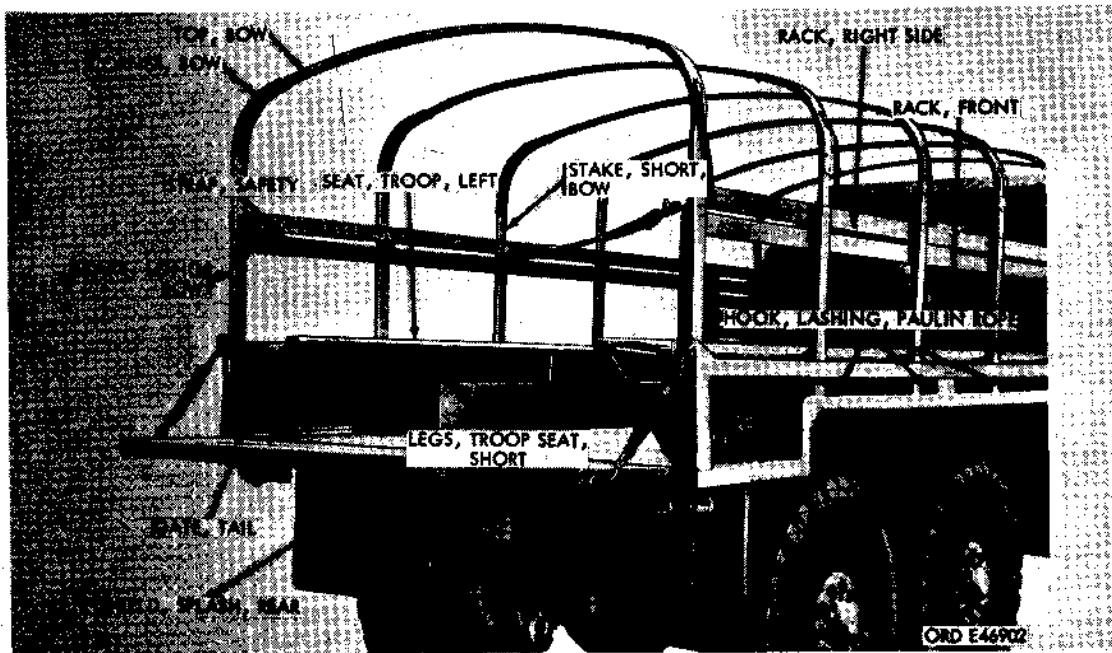

Figure 57. Right rear view of cargo body.
The open top metal body is mounted on the frame behind the cab. A paulin and two end curtains supported by six bow assemblies provide weather protection. Removable front and side racks include tubes for the six top bows. The removable bows are made of wood with metal reinforcements. Troop seats, incorporated in side racks, can be lowered and supported on hinged legs. Lashing hooks and red-amber reflectors (fig. 57) are bolted to the body. The tailgate is hinged
a. *General.* The body assembly (fig. 57) consists of body, front and side racks, side rack
j. Bow Assemblies (Fig. 57). Remove screws and nuts holding bow corners to bow
b. Troop Seat Assemblies (Fig. 57). Position troop seat assembly on side rack and install six hinge pins attaching seat to rack. Install six 3/32 x 3/4 cotter pins holding hinge pins in place. Raise seat and engage seat clamp to hold seat to rack.
- (1) All six bow assemblies are installed in the same manner. The first, second, and rear bows are longer than the three intermediate bows. Engage ends of bow assemblies (fig. 57) in tubes in side racks and push down on bows to fully seat ends in tubes.
- (2) Place paulin front and rear curtains in position on front and rear end bow
63. **Cargo Body** (Fig. 57)